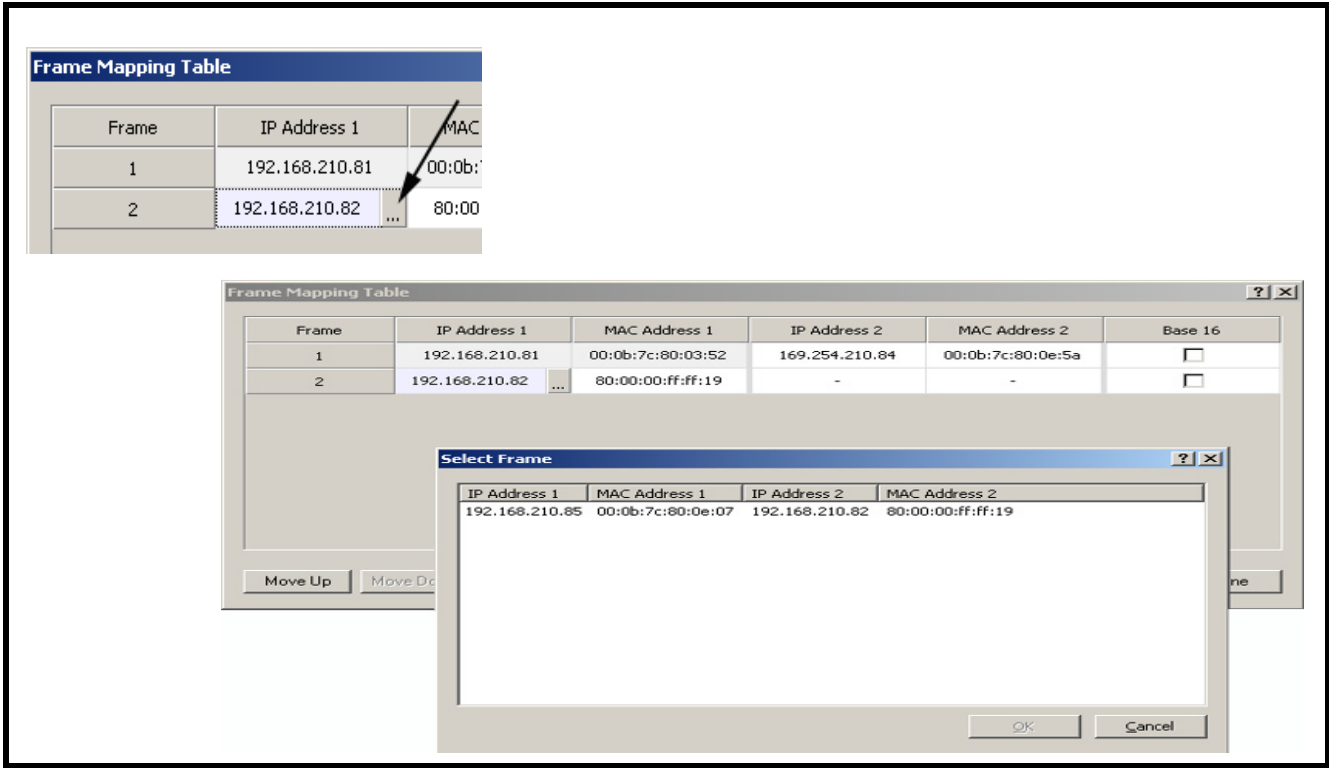

FIGURE 43. Frame Mapping Table Browse Button which opens the Select Frame window.
- 1. Click the **Address** to make the field active and the Browse button appear (see Figure 43).